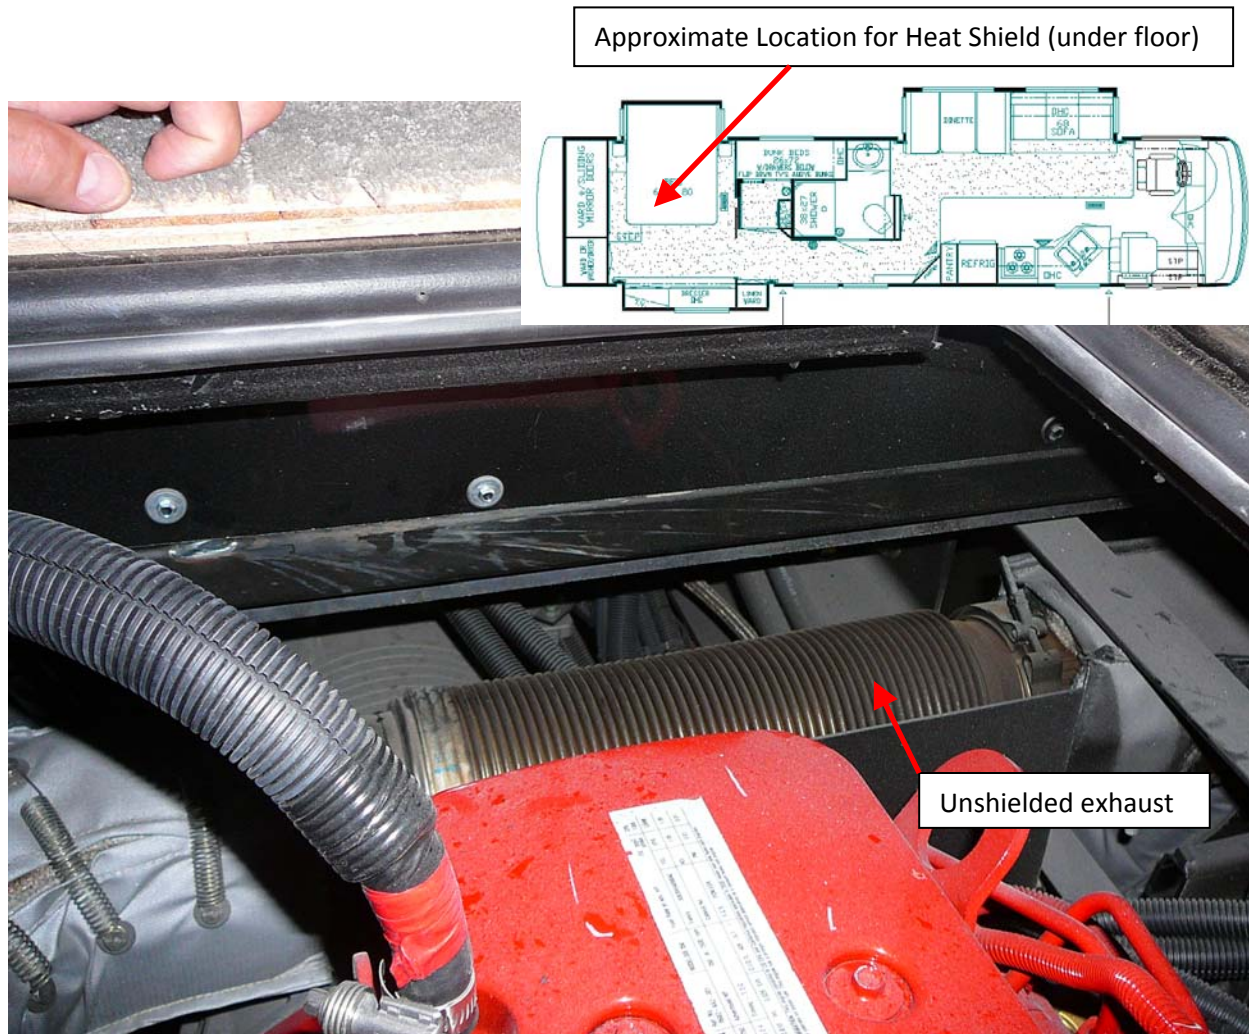
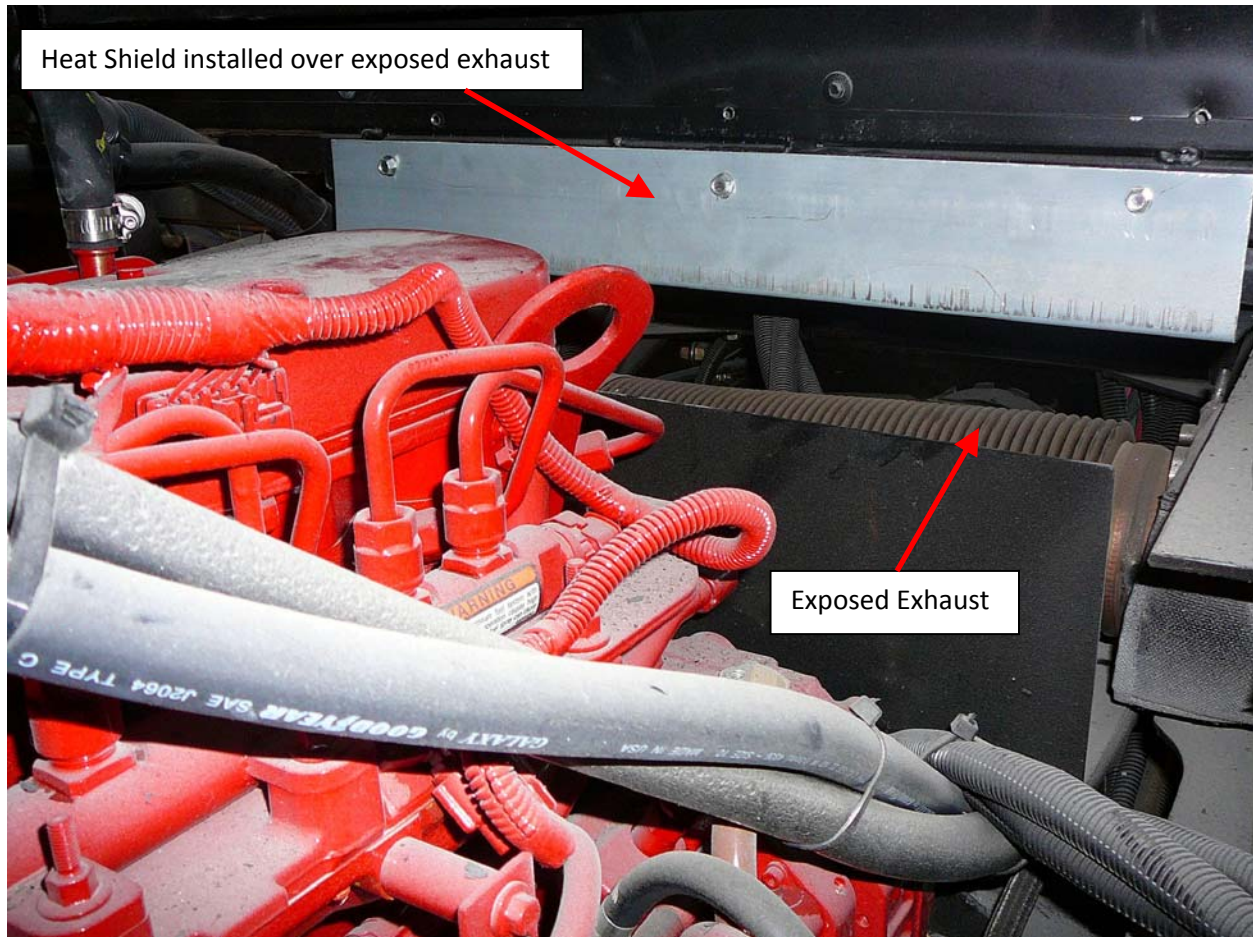

Figure 1: No heat shield installed
Figure 2: Heat Shield installed
**Diagnosis Procedure:** Move any obstructions, and open the engine access located in the floor. Look forward toward the front end of the engine compartment. Look for the heat shield on the cross member that is located just below the engine access opening. This heat shield will be installed on the cross member. Figure 1 shows the unit without a heat shield, figure 2 shows the unit with a heat shield installed.